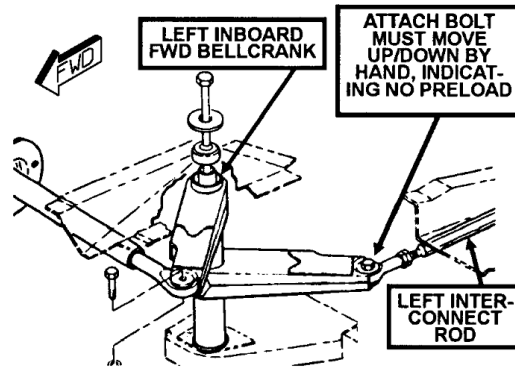

Figure 515
- (1) Verify drivescrew stopnut is positioned in UP position previously set (full up; one turn from end).
- (2) Repeat this step for both flaps.
- 2 With interconnect rod reconnected to forward bellcrank, attach bolt must move up/down by hand, indicating no preload. (Refer to Figure 515)